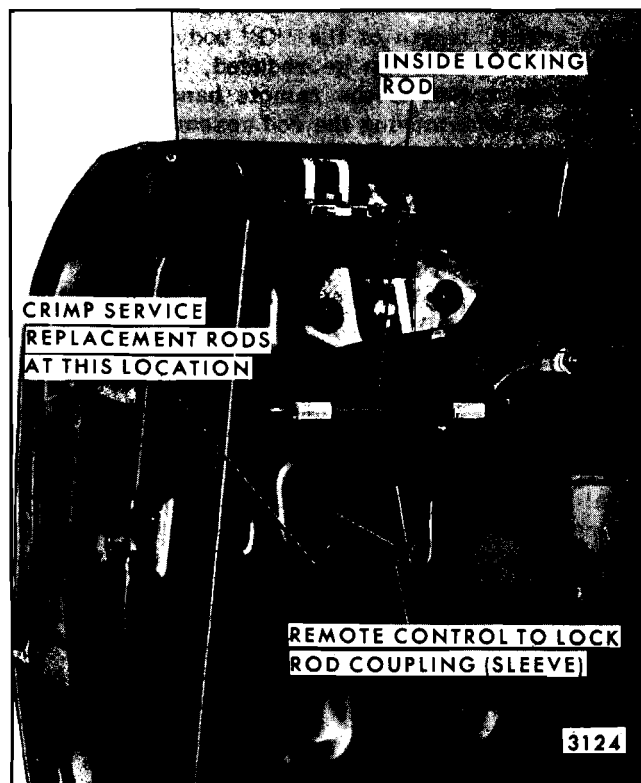
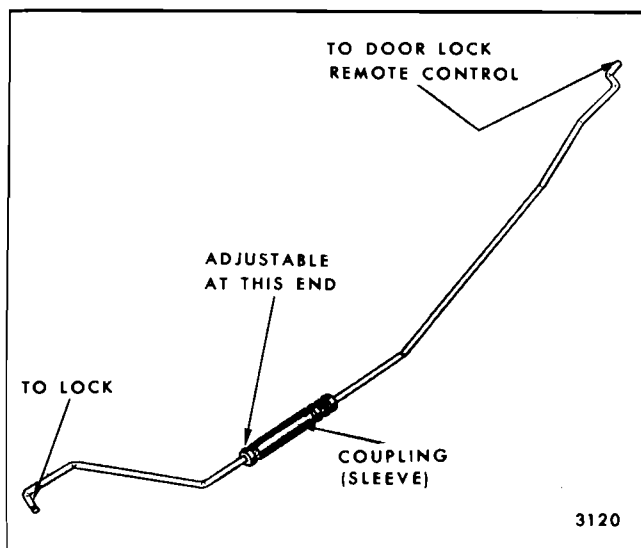

Fig. 6-65—Front Door Inside Locking Rod - Coupe Styles
Fig. 6-66—Door Lock Remote Control to Lock Connecting Rod - "G" Styles
2. Slide inside locking rod to door inner panel plastic retainers in direction of arrows shown in Figure 6-65.
NOTE: Due to the limited operating travel of the squeeze type remote control handle on "G" styles, an adjustable remote control to lock rod coupling (sleeve, Figure 6-65) is utilized to insure proper locking operation.
The overall length of the "G" body remote control to lock rod can be reduced, to correct insufficient travel of the remote handle to unlock the door, by removing the rod assembly and turning the portion of the rod between the coupling and lock assembly clockwise (Refer to Figure 6-66). To increase the rod assembly length, turn counterclockwise. Proper rod length is determined to be correct when the connecting rod assembly aligns with the attaching holes in the door lock remote control and lock assembly.
Service Replacement "G" body remote control to lock rods are uncrimped at the adjustable end of the coupling (Figure 6-66). This permits the rod to telescope to the desired length when installing, but necessitates crimping of the coupling after installation. Crimping can be done with a pair of diagonal cutters or comparable tool to insure proper locking operation (Refer to Figure 6-65 for crimping location).